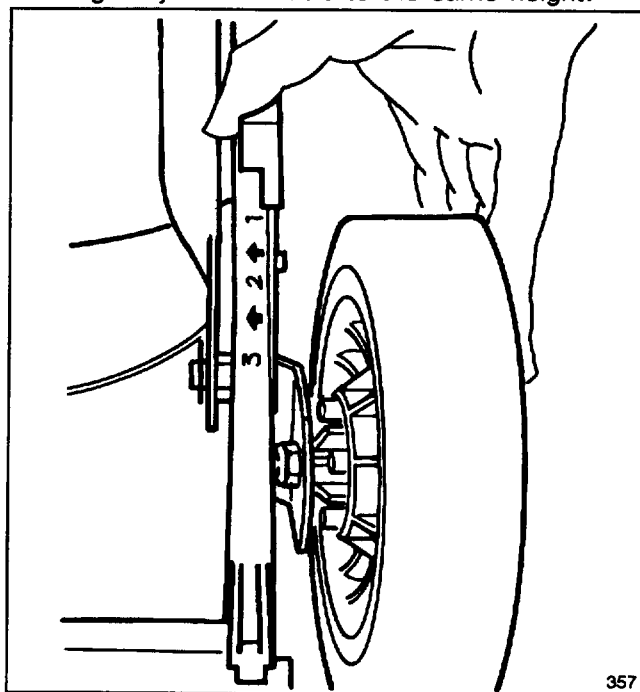

Figure 10
2. For easier adjustment, lift housing up so wheel is off ground. **Do not put fingers under housing when lifting.** Squeeze adjusting lever toward wheel (Fig. 10) and move it to the desired setting. Ensure pin on adjusting lever engages notch in housing. Adjust all wheels to the same height.